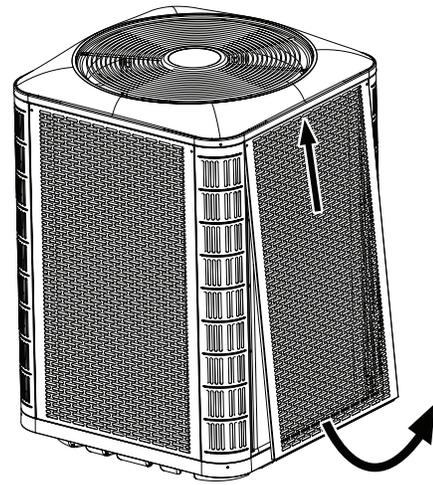

Figure 3. Panel Removal
2. Slide the panel up towards the top pan in order to clear the bottom flange from the base pan. See Figure 3, (page 7).